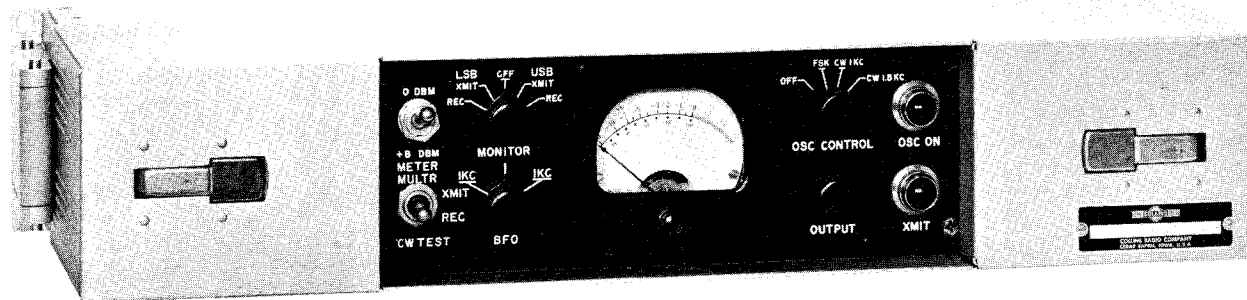

Figure 1-5. Converter-Monitor CV-730/URC
e. CONVERTER-MONITOR CV-730/URC. - (Refer to figure 1-5.) The CV-730/URC is used to permit the AN/URC-32( ) to be operated CW (continuous wave) by a CW key or FSK (frequency-shift keying) by a teletypewriter loop (60 ma). During transmit operation, the unit supplies audio tone outputs to the USB circuits in the sideband generator (AM-2064/URC). For CW operation, the CV-730/URC provides a choice of two different audio-keyed tones, a 1-kc tone, or a 1.5-kc tone. For FSK operation, audio tones of 1575 cps for space (0 ma), 2425 cps for mark (60 ma), and 850 cps for shift are provided.